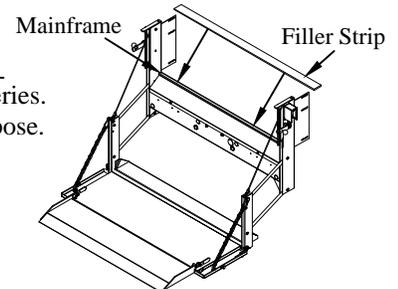

Figure 6: Filler strip location.
1. **Weld** the filler strip or strips to the top corner of the liftgate mainframe (Figure 6).
4. **Apply** the remaining vinyl tape the the under side of the filler strip (Figure 6).